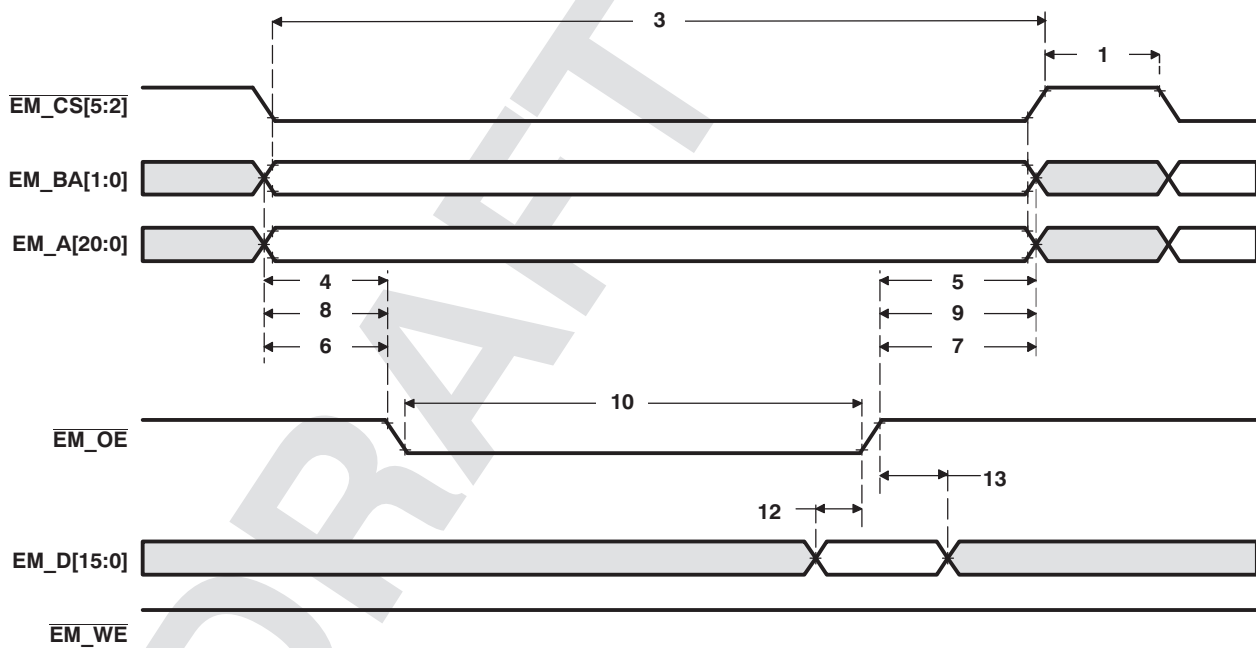
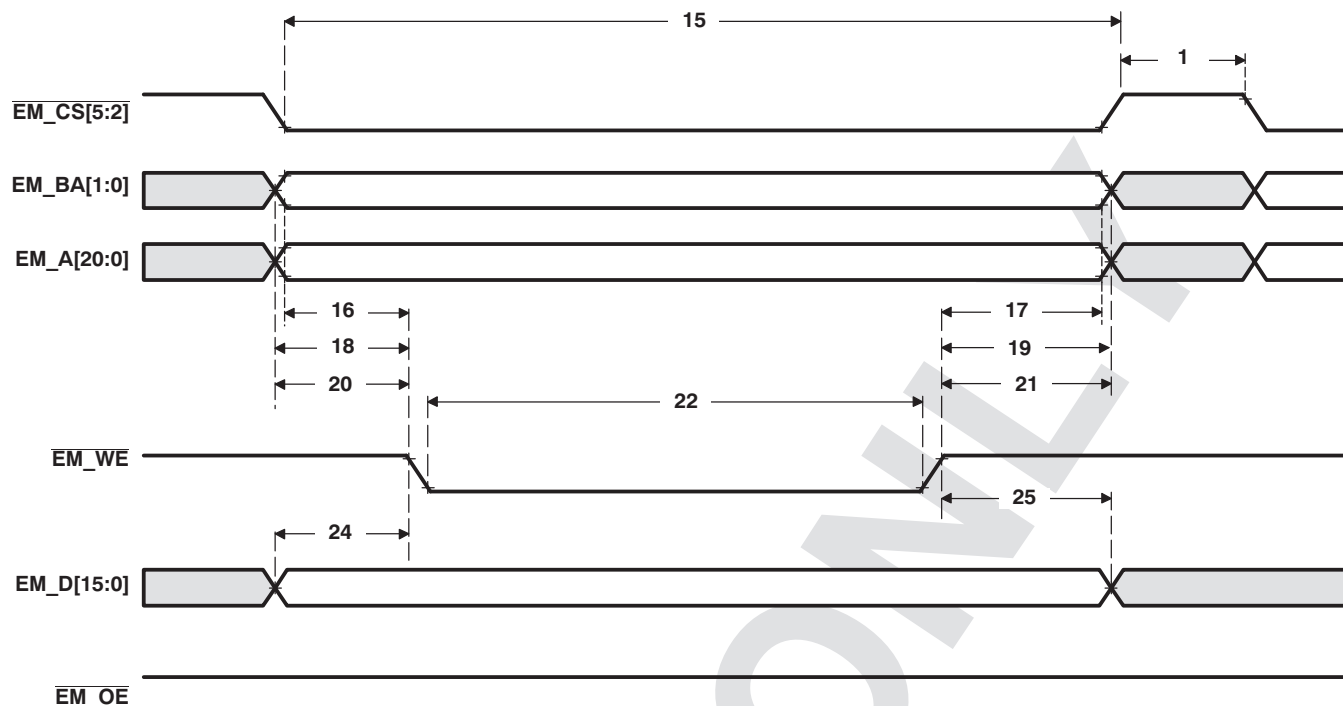
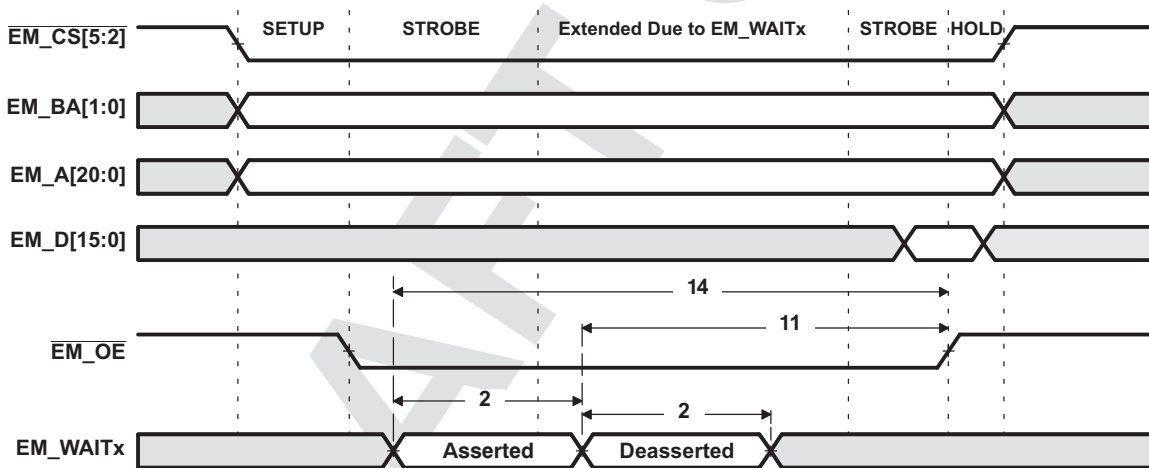
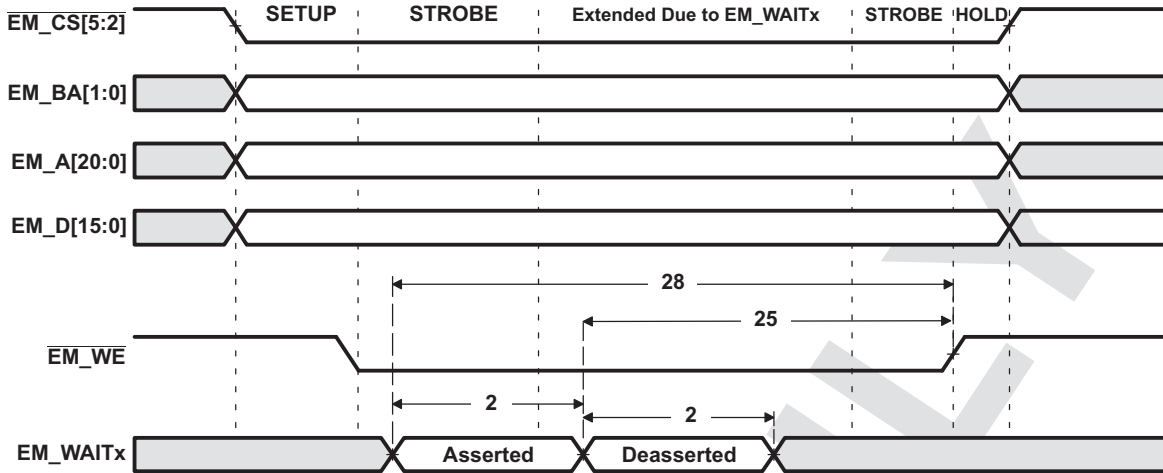

Figure 6-17. Asynchronous Memory Read Timing for EMIF
Figure 6-18. Asynchronous Memory Write Timing for EMIF
Figure 6-19. EM\_WAITx Read Timing Requirements
Figure 6-20. EM\_WAITx Write Timing Requirements
(1) TA = Turn around, RS = Read setup, RST = Read strobe, RH = Read hold, WS = Write setup, WST = Write strobe, WH = Write hold, MEWC = Maximum external wait cycles. These parameters are programmed via the Asynchronous Configuration and Asynchronous Wait Cycle Configuration Registers.
(2) E = SYSCLK period in ns. For example, when SYSCLK is set to 100/120 MHz, E = 10/8.33 ns, respectively.
(3) EWC = external wait cycles determined by EM\_WAITx input signal. EWC supports the following range of values EWC[256-1]. Note that the maximum wait time before timeout is specified by bit field MEWC in the Asynchronous Wait Cycle Configuration Register.
**Table 6-15. Switching Characteristics Over Recommended Operating Conditions for EMIF Asynchronous Memory (1) (2) (see Figure 6-18 and Figure 6-20) (3) (continued)**
(1) E = SYSCLK period in ns. For more detail on the EM\_SDCLK speed see Section 6.9.2, *EMIF Non-Mobile and Mobile Synchronous DRAM Memory Supported*.
**Table 6-18. Timing Requirements for EMIF Asynchronous Memory(1) (see Figure 6-17, Figure 6-19, and Figure 6-20)**
(1) E = SYSCLK period in ns. For example, when SYSCLK is set to 100/120 MHz, E = 10/8.33 ns, respectively.
(2) Setup before end of STROBE phase (if no extended wait states are inserted) by which EM\_WAITx must be asserted to add extended wait states. Figure 6-19 and Figure 6-20 describe EMIF transactions that include extended wait states inserted during the STROBE phase. However, cycles inserted as part of this extended wait period should not be counted; the 4E requirement is to the start of where the HOLD phase would begin if there were no extended wait cycles.
**Table 6-19. Switching Characteristics Over Recommended Operating Conditions for EMIF Asynchronous Memory(1) (2) (3) (see Figure 6-17, Figure 6-19, and Figure 6-20)**
Table 6-19. Switching Characteristics Over Recommended Operating Conditions for EMIF Asynchronous Memory (1) (2) (3) (see Figure 6-17 , Figure 6-19 , and Figure 6-20 ) (continued)